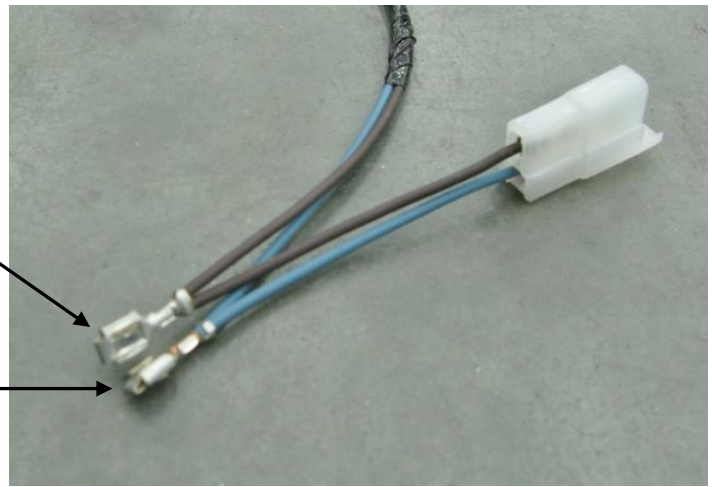

Figure 32 - New Headlight Harness
31. Insert the terminal of the light blue wire on the new headlight harness into the headlight connector location where the original light blue wire was removed. Insert the terminal of the brown wire on the new headlight harness into the headlight connector location where the original brown park lamp wire was removed (Figure 32 on the next page).